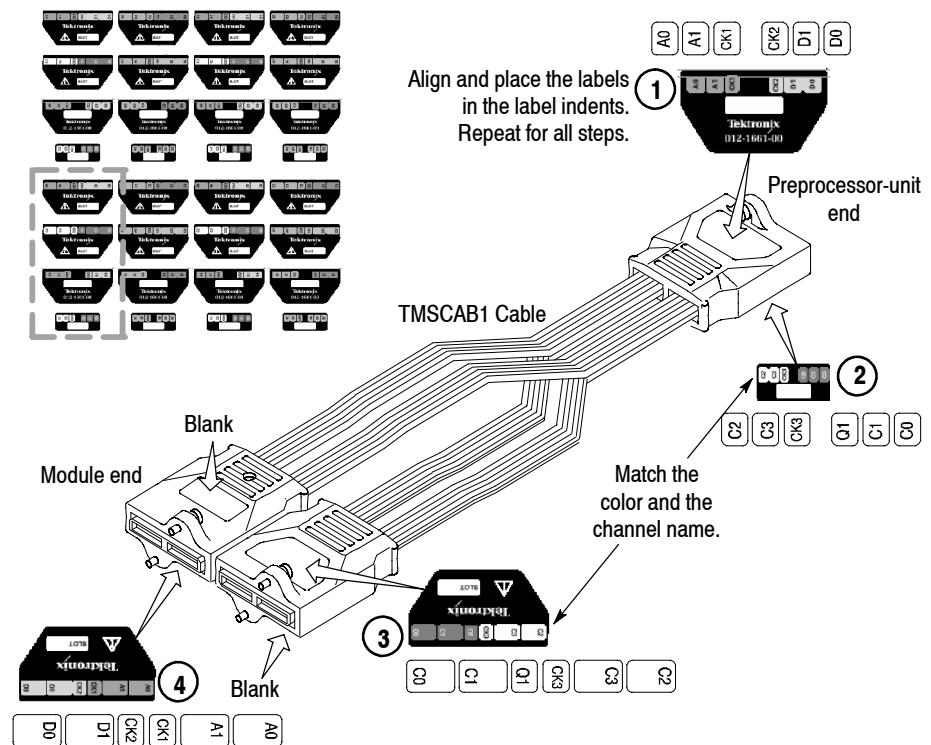

Figure B-1: Apply TMS CAB1 labels
2. Follow the steps in Figure B-1 while attaching the labels.